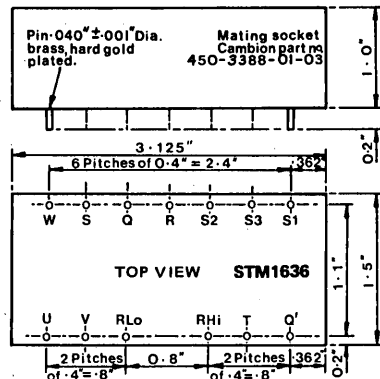

Figure 3. Pin Arrangement of the STM1636
**60 Hz operation.** When used on 60 Hz the SSCT has an external transformer module for the signal input transformers (see Fig. 3). No output transformer is used on 60Hz, the output being taken directly from the pins  $V$  and  $U$  (output Hi and Lo respectively) on the SSCT module. The output voltage is 7 volts rms directly from the output of an operational amplifier (it is short-circuit proof) and is suitable for driving into loads of 1K ohms or more. The signal inputs to the module are in resolver form and connect via the pins marked Q.R.S.T. The pins Q.R.S.T. on the SSCT module must be connected to the pins marked Q.R.S.T. on the transformer module  $Q \rightarrow Q$  etc. (see Fig. 4). The input signal connections are made to the transformer module pins marked  $S_1$ ,  $S_2$ ,  $S_3$  and  $W$ . For synchro use the signals are connected to  $S_1$ ,  $S_2$  and  $S_3$ , no use being made of pin  $W$ . For resolver use the sine input is applied between pins  $S_1$  and  $S_3$  and the cosine input between  $S_2$  and  $W$ . The polarity should be such that if  $S_1$  and  $S_2$  are connected together and regarded as common, the voltages on  $S_3$  and  $W$  will be in time phase in the first quadrant.